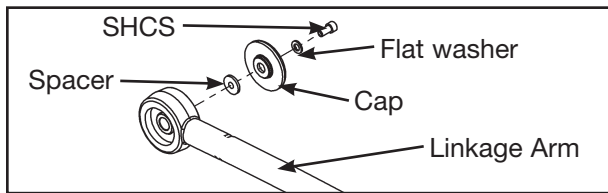

Figure 3
- A. Using a 3/16" Allen wrench, remove the SHCS, flat washer, cap and spacer securing the linkage arm. See figure 3.
B. Using a 3/16" Allen wrench, reinstall the parts removed in step 6A. See Figure 3.